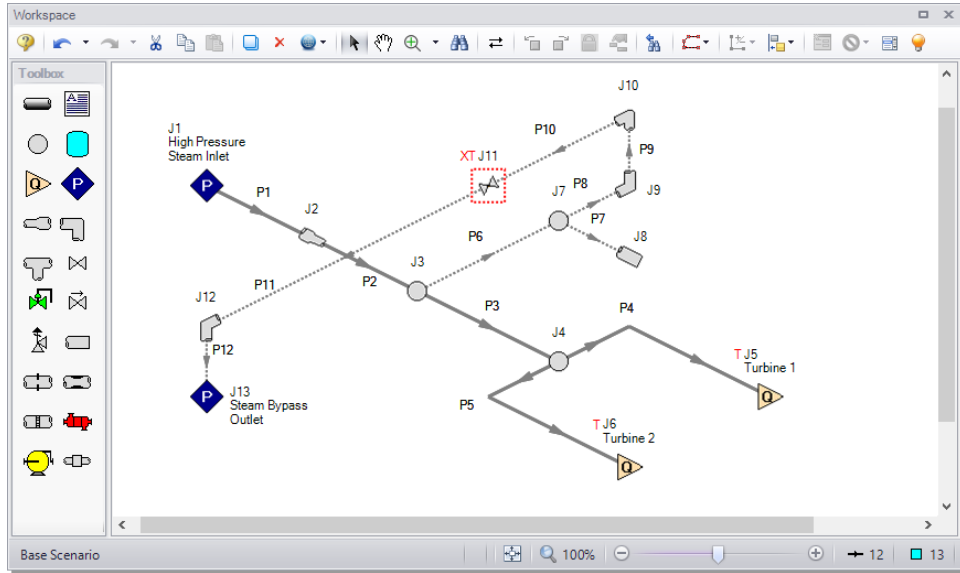

Figure 4.2 The isometric layout with the grid turned off
6. The grid can be shown or turned off in the Arrange menu, as shown in Figure 4.2